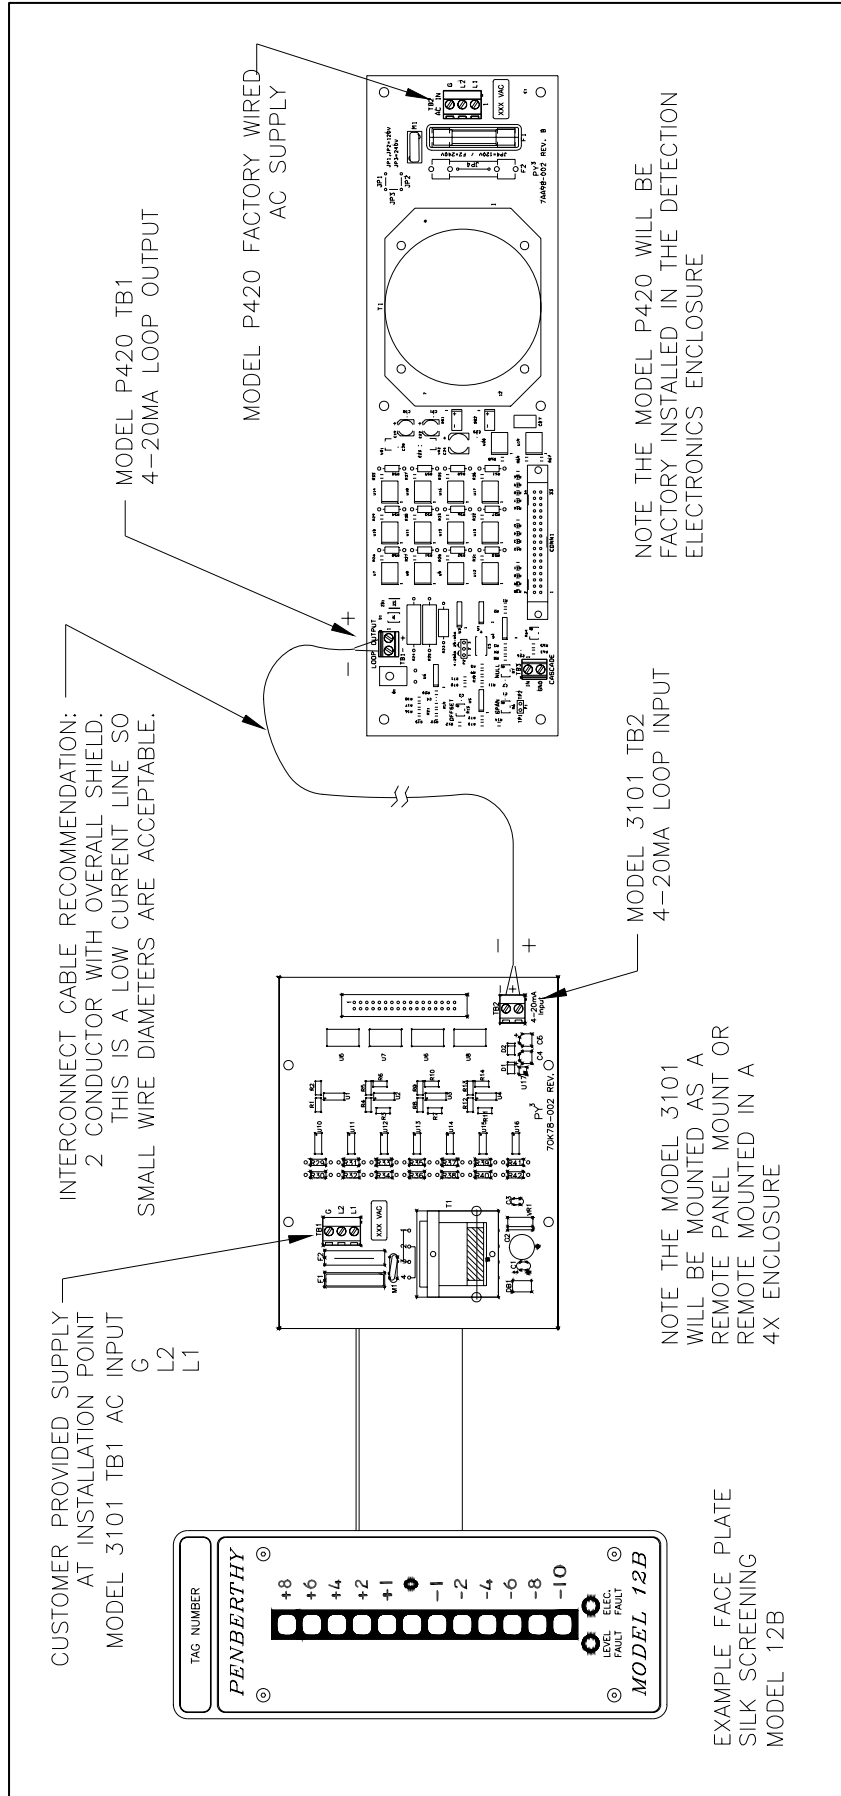

Figure 2 – Wiring Diagram
There are many mounting options with the Model 3101. If the 3101 has been supplied as part of a new Electronic Water Level Gage and has been factory-installed in the host unit's enclosure or in a display enclosure (see Figures 5-8), then this section may be skipped. If the Model 3101 is to be field-installed, please refer to Figure 2 for wiring diagram and Figures 3-5 for mounting dimensions.
2.4 Wiring (Refer to Figure 2)
Display input terminal block TB2 (Figure 1, loc 3) connects to the Model P420 loop output terminal block (Figure 2).